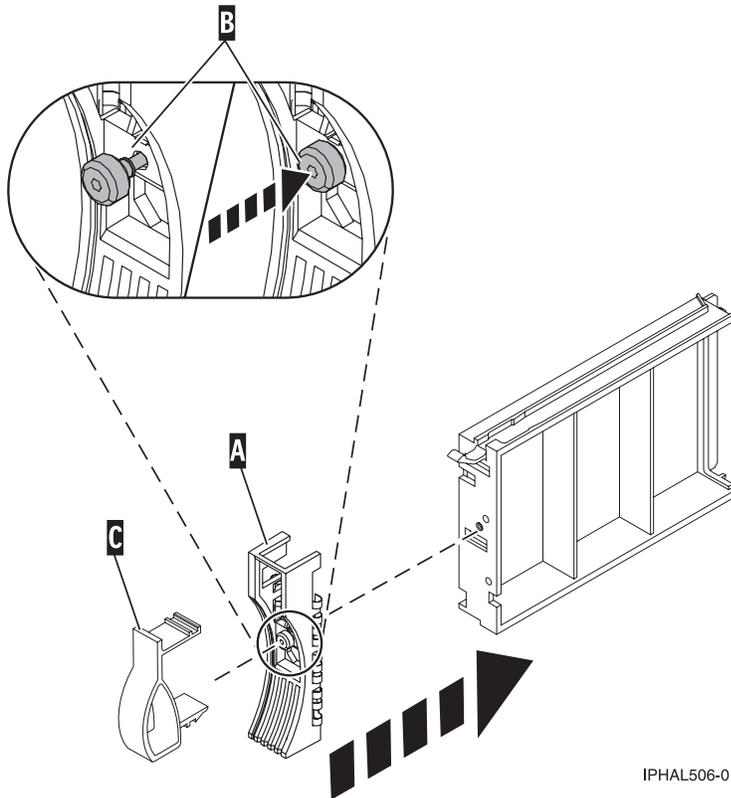

Figure 43. Attaching a bezel to a disk drive filler
3. Install the disk drive bezel latch **(C)** onto the front of the drive or filler, as shown in Figure 43 on page 71.